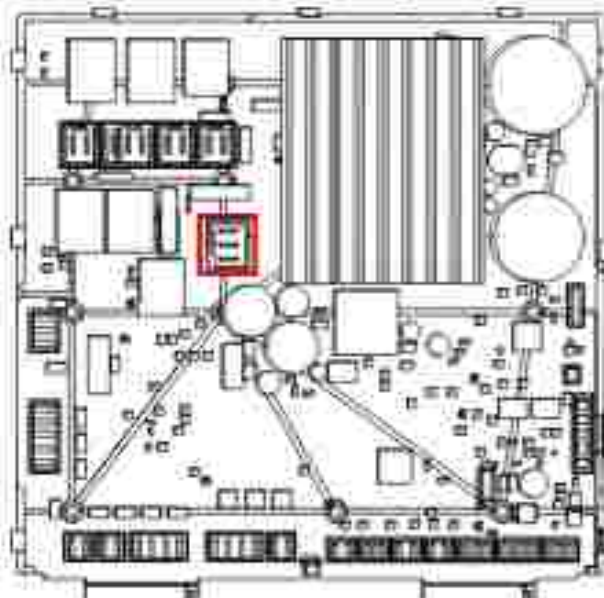

Figure 1 - Location of J8 on Appliance Control Unit (ACU)
6. Disconnect rotor connector harness from J8 on the Appliance Control Unit (ACU) (see Figure 1).